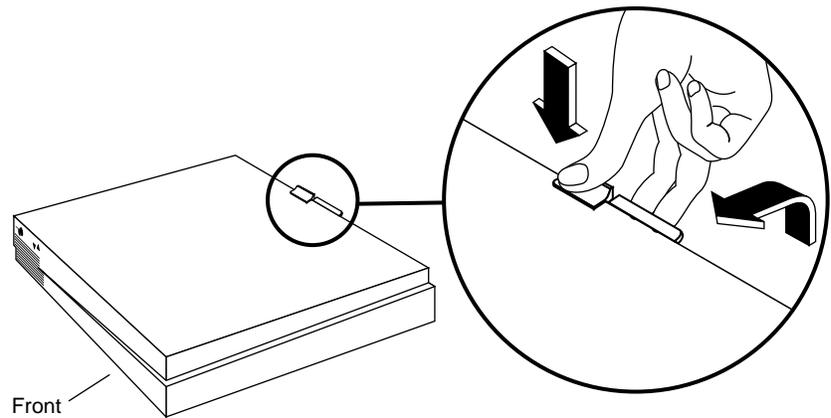

Figure 2-2 Removing the Top Cover of the Challenge S Server
3. Facing the front of the server, place your right thumb on the small channel at the back of the cover, and your second and third fingers under the finger ledge, as shown in Figure 2-2.